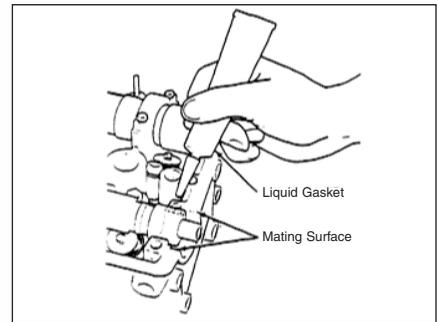

Figure 2 Apply liquid gasket to the cylinder head mating surfaces of the camshaft holders then install the holders onto the head.
5) Apply liquid gasket (p/n 08718-0001) to the cylinder head mating surfaces of the camshaft holders (**Figure 2**, right), then install the holders onto the head. Tighten the camshaft holder bolts to 7 ft.lbs. (10 Nm).